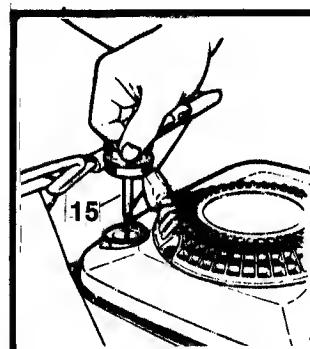

FIG. 2
•CHECK guards, BAG (3) BAG ADAPTOR (4) or side discharge chute for proper position and tightness.
•CHECK oil level in 4-cycle engines and add oil as needed to bring the level up to but not over the dipstick (15) "FULL" mark. Refer to FIG. 2.